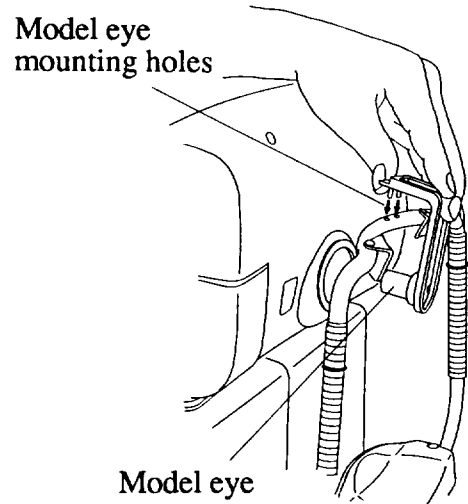

Figure 2-10
(2) Measure the model eye provided.
- ① Set the model eye in front of the window by inserting the two pins of the model eye into the mounting holes on the forehead rest (see Figure 2-10).